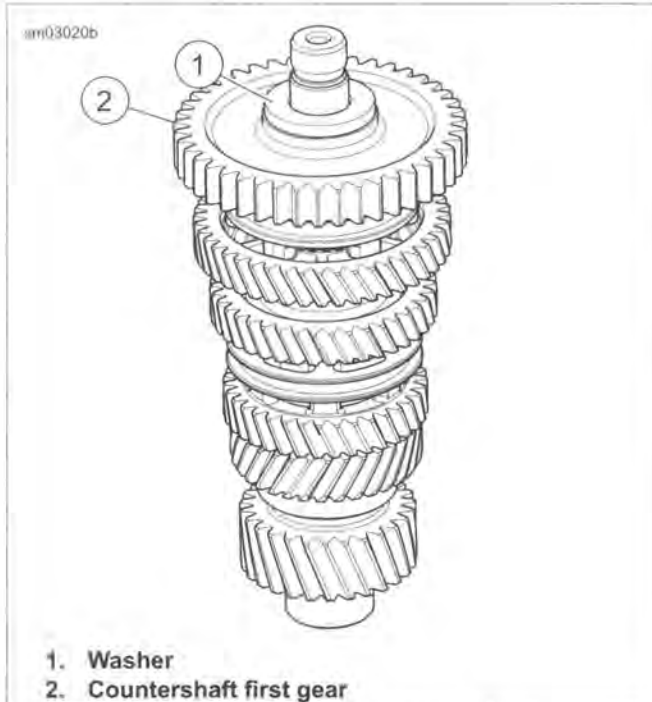

Figure 6-19. Countershaft First Gear
3. See Figure 6-19. Remove washer (1), countershaft first gear (2) and bearing.
5. See Figure 6-19. Install **new** needle bearing, countershaft first gear (2) and washer (1).